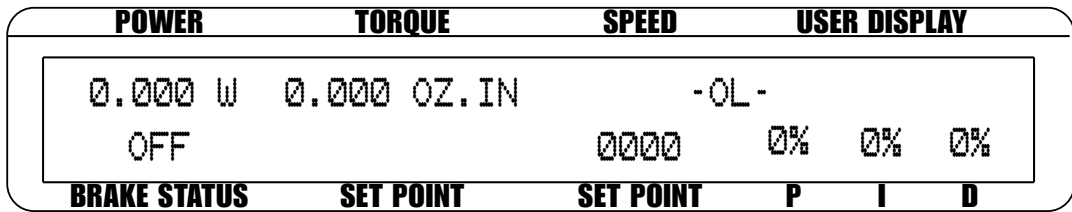

Fig.5-11 -OL-Speed Alarm Display
- A. If speed is greater than the maximum speed setting but less than 120%, -OL- will flash on the display where the speed reading was (as indicated in Figure 5-11).